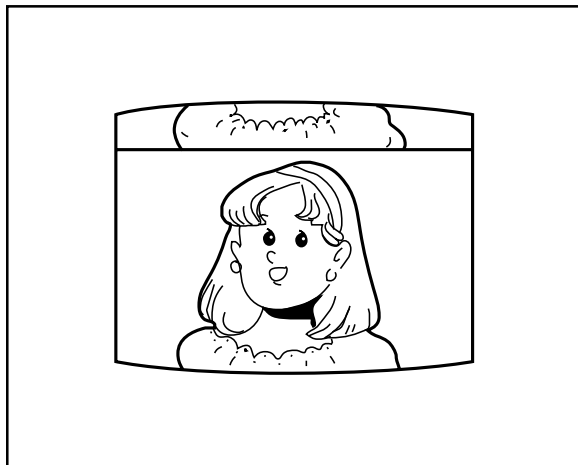

Figure 6. Vertical Phase
5.3 VERTICAL PHASE (See Figure 6)